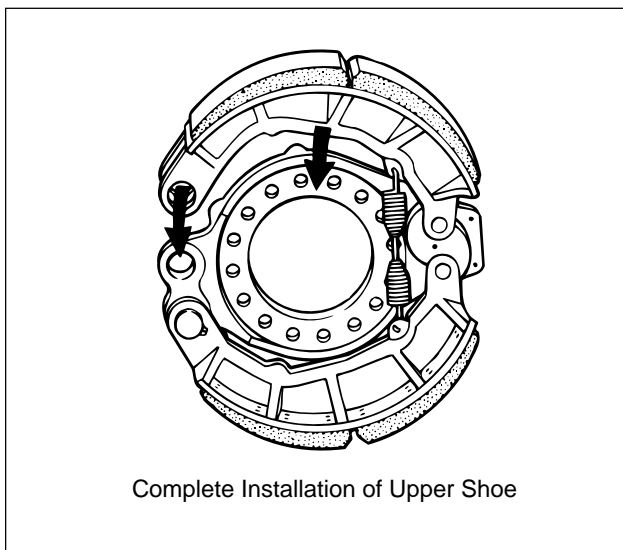

Figure 80. Upper Shoe Installation
10. Complete the installation of upper shoe and install anchor pin, washers and retaining rings. Refer to Figure 80.